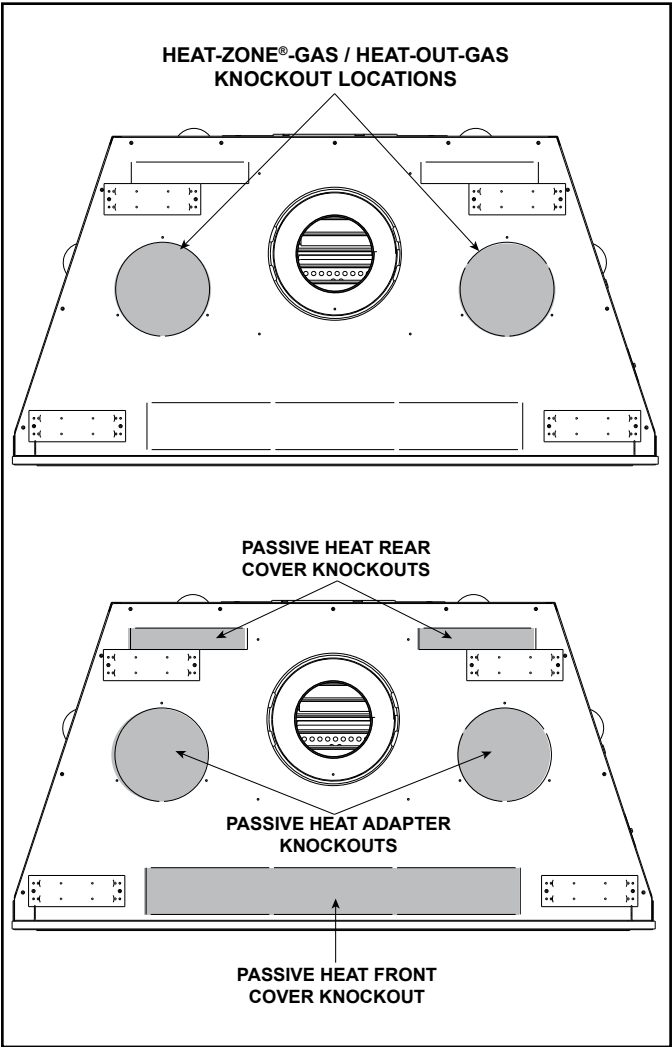

Figure 6.12 Heat Management Knockout Locations
- Locate the two heat management knockouts on the top of the appliance. Remove the knockout from the fireplace and discard it See Figure 6.12. Either one or two heat management systems may be installed. Remove the knockout(s) from the appliance with a tin snips.
Passive Heat may be used with HEAT-OUT-GAS or one HEAT-ZONE®-GAS. The dedicated knockouts, as shown in Figure 6.12, must be used only as indicated.